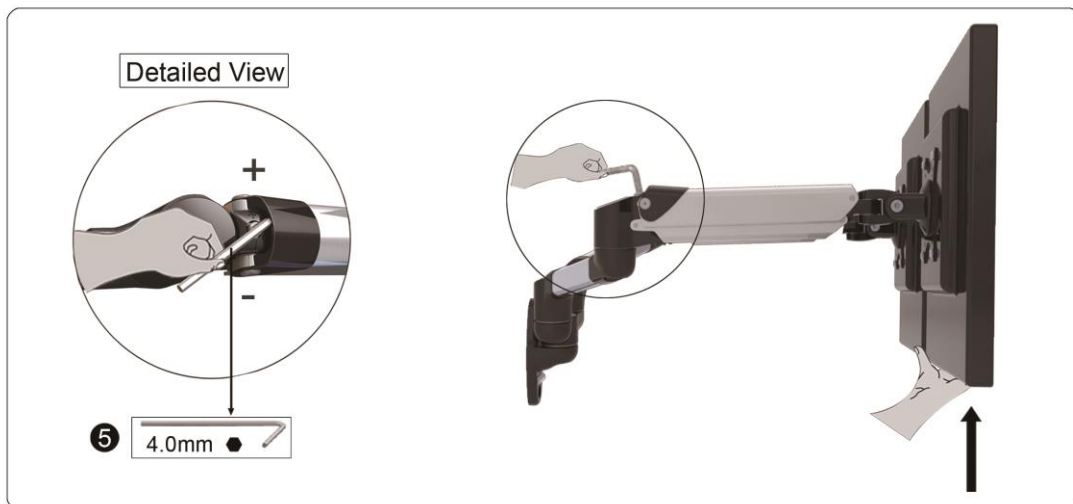

Figure 5-1
1. Depending on the weight of the monitor, the resistance on the gas spring arm may need to be adjusted. To make the necessary adjustments, loosen/tighten the tension screw located at the corner of the articulating arm using the provided 4mm Allen wrench (5) (See Figure 5-1).